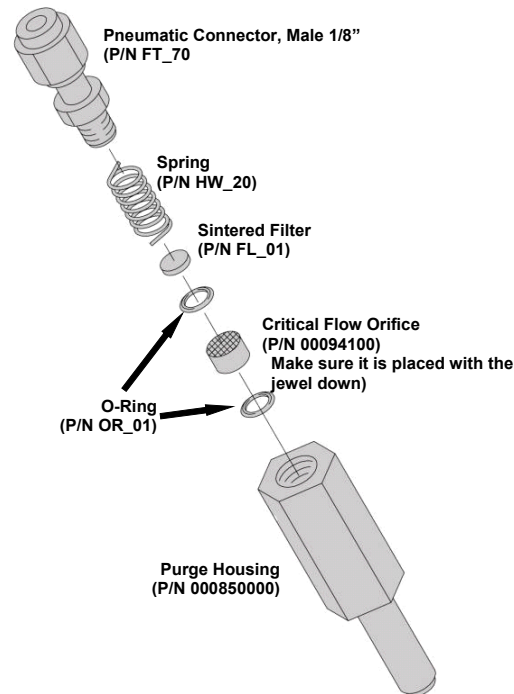

Figure 13-14: Critical Flow Restrictor Assembly Disassembly
4. Remove the fitting and the components as shown in the exploded view in Figure 13-14.